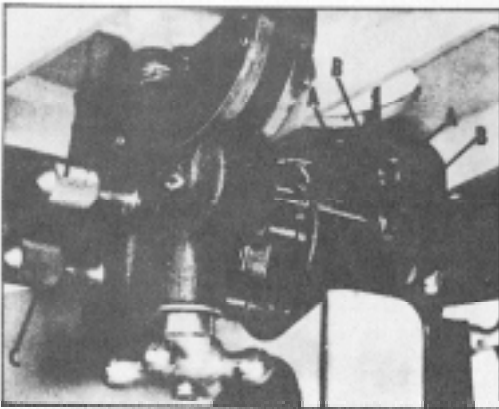

Fig. 18
1. Loosen the two screws (A) Fig. 18, and move the guides (B) as close as possible to the side of the blade being careful not to pinch the blade. Then tighten screws (A).
2. The front edge of the guide blocks (B) should be adjusted so they are just behind the gullets of the saw teeth by turning the knurled knob (C) Fig. 18.
3. The lower blade support bearing (D) Fig. 18, should be adjusted so it is about  $1/64$ " behind the back of the blade by turning the knurled knob (E).